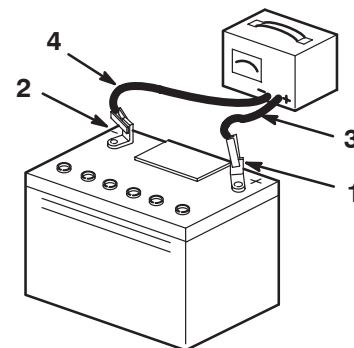

Figure 34
- When the battery is fully charged, unplug the charger from the electrical outlet, then disconnect the charger leads from the battery posts (Fig. 34).